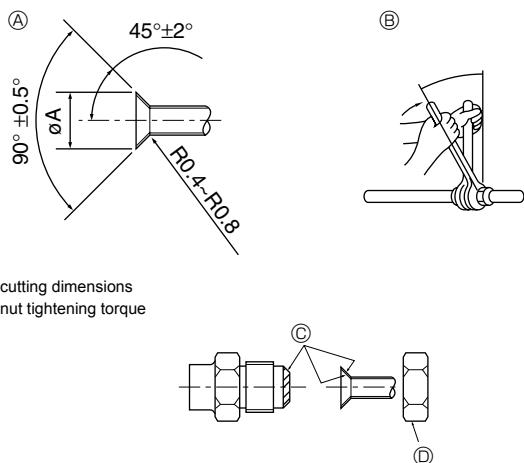

Fig. 4-1
- Apply thin layer of refrigerant oil to pipe and joint seating surface before tightening flare nut. ④ (Fig.4-1)
- Use 2 wrenches to tighten piping connections. ⑤ (Fig.4-1)
- Apply refrigerating machine oil over the entire flare seat surface. ⑥ (Fig.4-1)
- Use the flare nuts for the following pipe size. ⑦ (Fig.4-1)
⑧ (Fig. 4-1)
⑨ (Fig. 4-1)